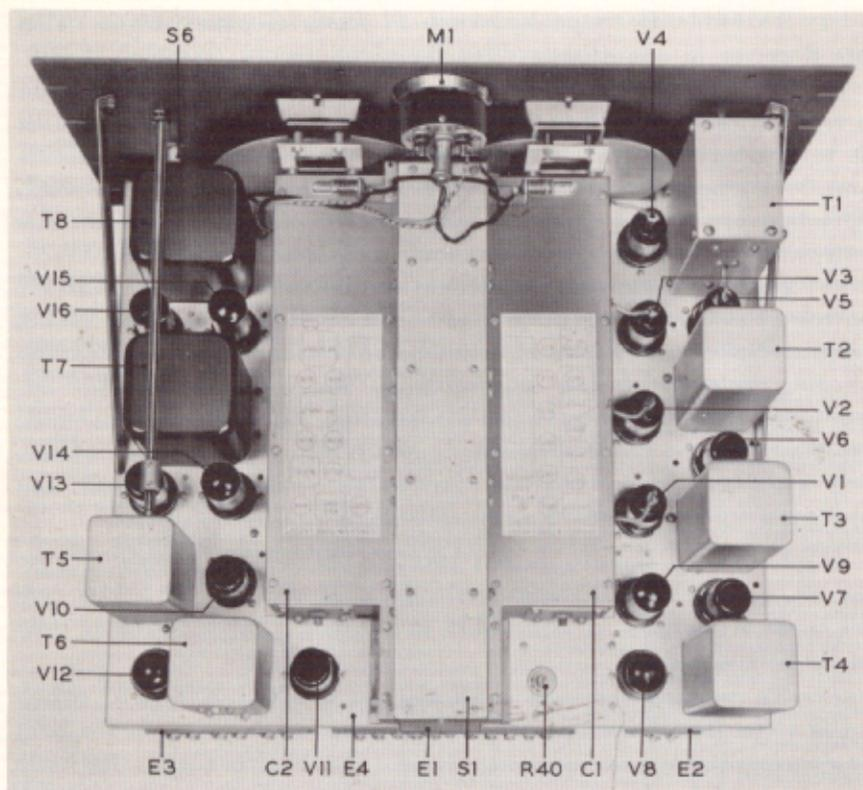

FIG. 7—Top-chassis view showing arrangement of components.
The proper location of these tubes is shown in FIG. 7 and on the diagram attached to the top of the tuning unit. Make sure that tubes V1, V2, V3, V4 and V5 have leads connected to their grid caps.
h. S-Meter Tuning: The S-meter (M1, FIG. 2), a tuning guide, operates only when the Receiver is set for AVC. Its reading increases as the Receiver approaches resonance with the incoming signal. Exact resonance is shown by the greatest reading of the meter. BAND WIDTH control must be set at 3 for accurate tuning by means of the meter. A screwdriver adjustment (R40, FIG. 7) at the rear of the chassis varies the resistance in shunt with the meter. By means of this adjustment, an "S9" reading may be obtained on any input between approximately 10 and 10,000 microvolts. The normal factory adjustment is made on an input of 50 microvolts, and when so adjusted each "S" number represents a change in signal input of approximately 6 decibels, or a ratio of two-to-one.